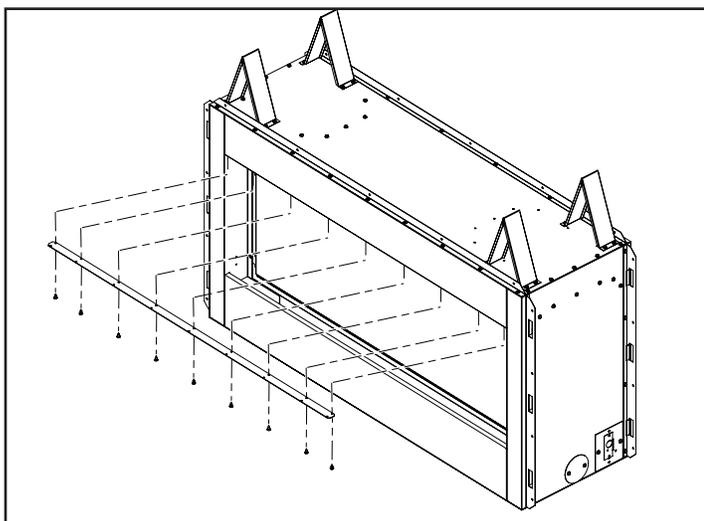

Figure 36 - Removing Mount Bracket for See-Thru Applications
2. Unscrew mount bracket from top face as shown in Figure 36, page 25. Discard mounting bracket and replace screws.